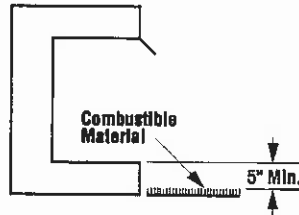

Figure 5
**Step 5. Floor clearance:** This firebox must be installed at least 5" above any combustible flooring material, such as carpeting or asphalt tile, which is closer than 14" to the base of the firebox (Figure 5).